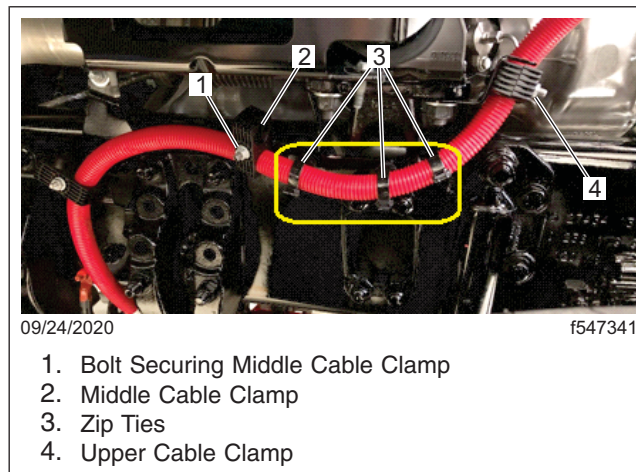

Fig. 1, 29A Battery Cable
2. Carefully cut the zip ties securing the battery cable access (BCA) battery cable as shown in Fig. 1.
3. Remove the nut securing the middle cable clamp. See Fig. 1) and remove the front piece of the clamp.
4. Loosen but do not remove the nut from the upper cable clamp (see Fig. 1.)